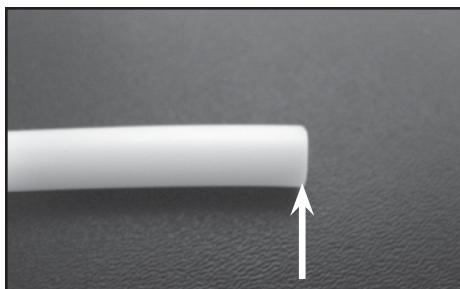
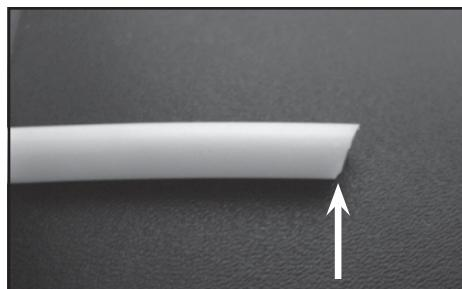
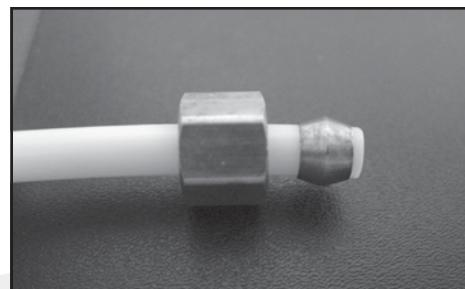

Fig. 1 (Correct)
Fig. 2 (Incorrect)
Fig. 3
- The water dispenser includes 8 meters (26 feet) of $\frac{1}{4}$ " OD flexible water line. If additional water line is needed, it can be purchased at your local hardware store. Cut the desired length to suit your installation requirements, making sure both ends of the water line are cut straight/square (See Fig. 1 & Fig. 2). Remove the compression nut and compression ring from the valve and install on the water line (See Fig. 3).